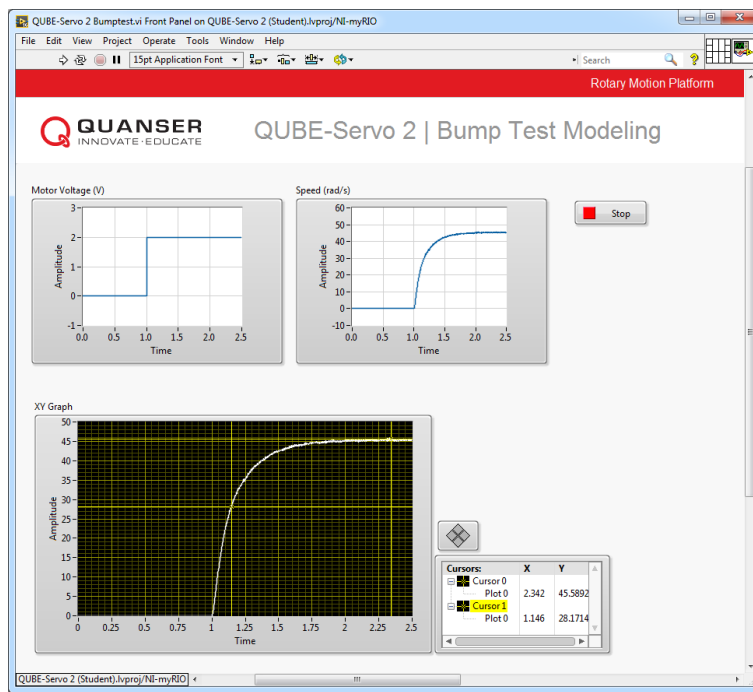

Figure 2.2: QUBE-Servo 2 Bump Test Response
1. Run the VI to apply a 2 V step to the servo. The response should be similar to Figure 2.2.